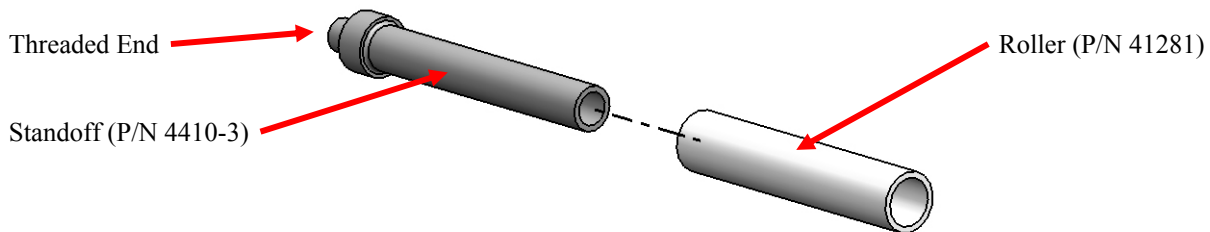

Figure 5-2: Standoff and Roller Assembly
2. Install the roller (P/N 41281) onto the standoff (P/N 4410-3) as shown in **Figure 5-2**.